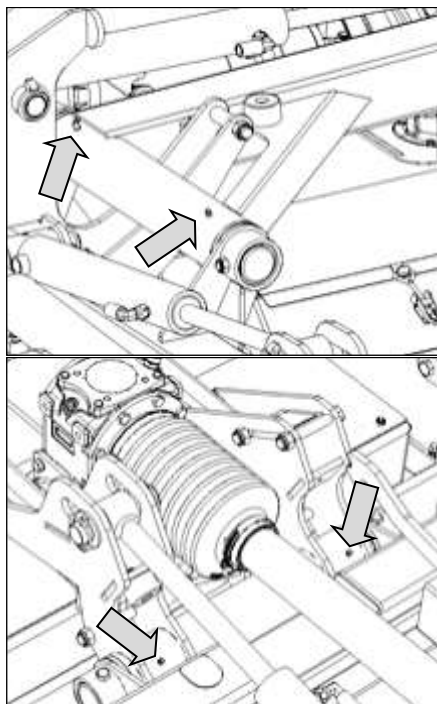

Fig. 49
5. **Outrigger hinge bushes:** Lubricate **every 40 hours or weekly**. Each outrigger (left, rear and right) pivots about a large tubular hinge pin. There is a large bush at either end of the hinge. Each bush is fitted with a greaser (Fig. 49). Each greaser should be given **4 pumps** of multi-purpose grease.